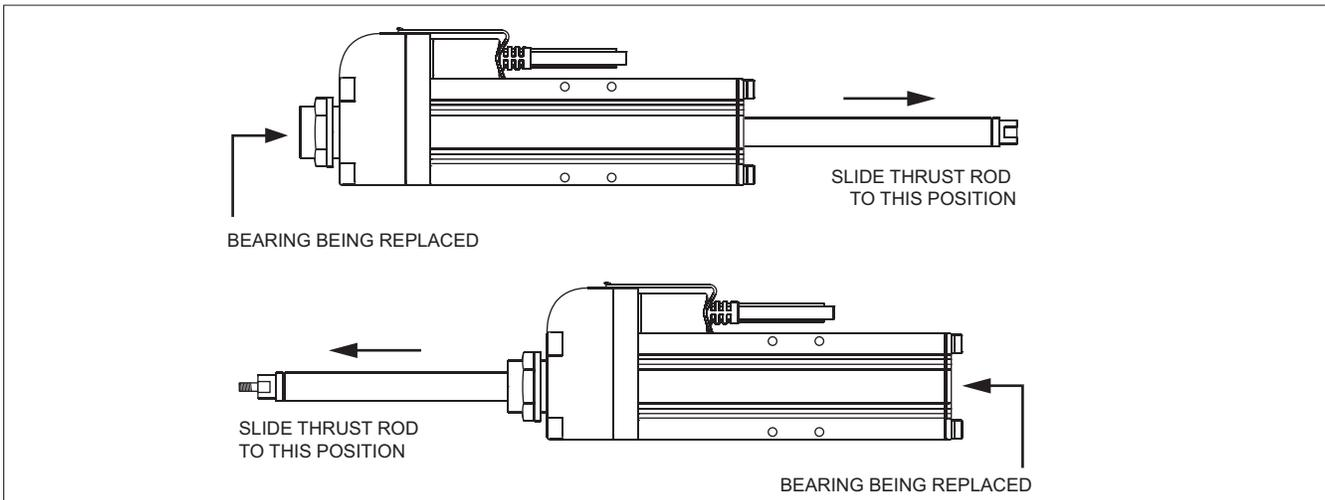

Figure 3.3 Positioning the thrust rod when removing a bearing.
- Withdraw the thrust rod away from the end containing the bearing to be replaced until the thrust rod disengages from the bearing, see Figure 3.3.